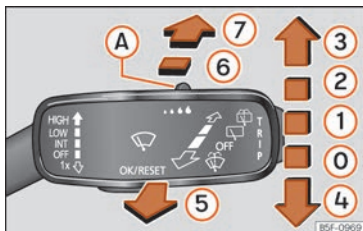

Fig. 35 Operating the windscreen wiper and rear wiper.
| 1 | | Windscreen wipers interval wipe. Using the control >>> Fig. 35 (A) adjust the interval (vehicles without rain sensor), or the sensitivity of the rain sensor. |